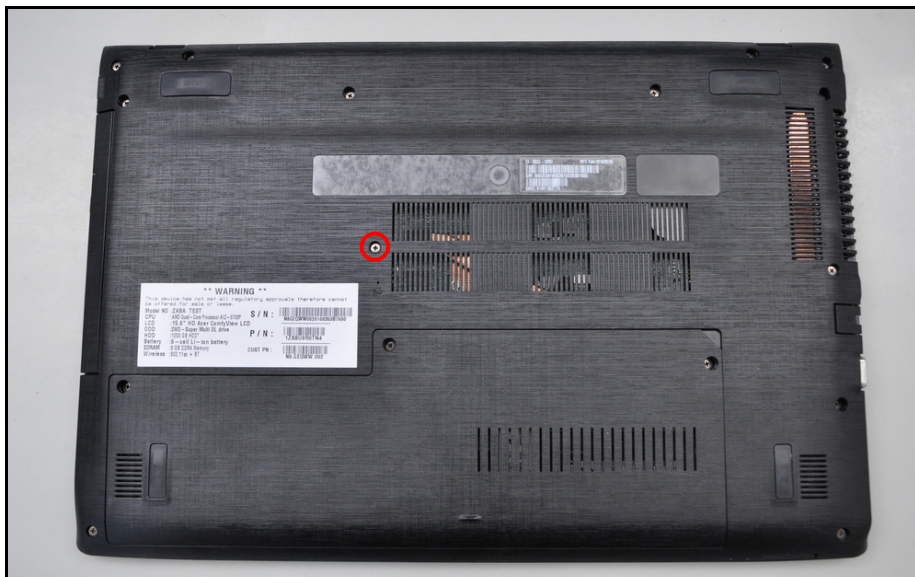

Figure 3-3. Optical Drive Screw Location
1. Remove one (1) screw from the base cover (Figure 3-3).